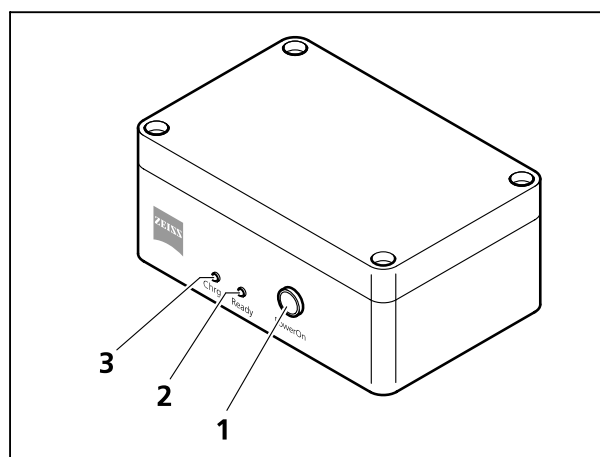

Fig. 14 Battery supply unit
When connecting the battery supply unit to a power outlet via the plug-in power unit of the microscope, the green power-on light **Ready** (Fig. 14/2) is on. The batteries are charged automatically.
The yellow charge indicator lamp **Chrg** (Fig. 14/3) lights as long as the charging process continues and goes out as soon as charging has been finished.
- The battery supply unit is switched on by pressing the **PowerOn** button (Fig. 14/1).